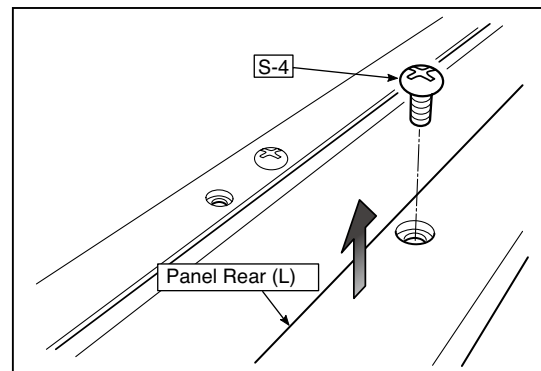

Fig.26
2. Remove the "S-4" screws shown in the figure 26 and then remove the Panel Rear (L).